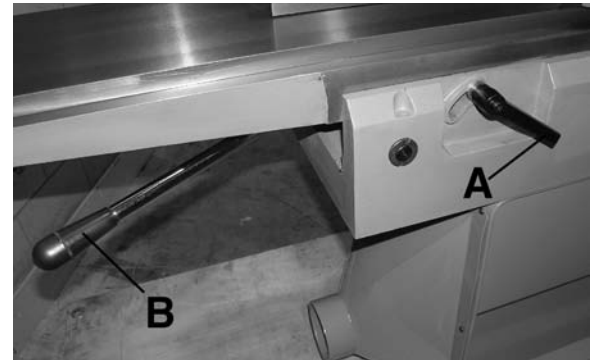
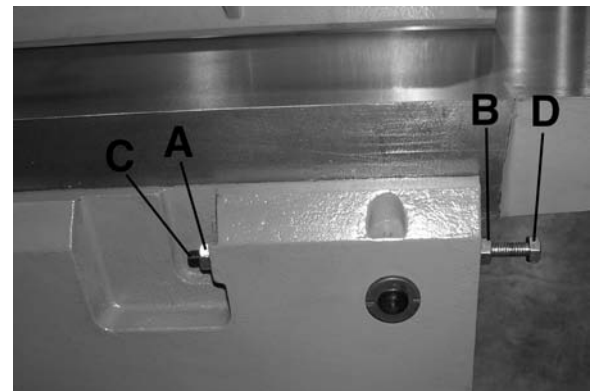

FIGURE 14
FIGURE 15
For most jointing operations the outfeed table must be exactly level with the cutter inserts at their highest point of revolution. To move the outfeed table, loosen lockhandle (A) Fig. 14, and move the table raising and lowering hand lever (B) up or down until the table is level with the cutter inserts. It may be necessary to adjust the positive stops. Loosen the two locknuts (A) and (B) Fig. 15, and the two adjusting bolts (C) and (D) when moving the table up or down.
When the table is exactly level with the cutter inserts at the highest point of revolution, tighten lockhandle (A) Fig. 14, and turn adjusting bolt (C) Fig. 15, until it bottoms; then tighten locknut (A). Bolt (D) is also a positive stop for the lower limit of the outfeed table. We suggest that this stop also be tightened when the outfeed table is set level with the cutter inserts. This will prevent the outfeed table from accidentally being lowered.